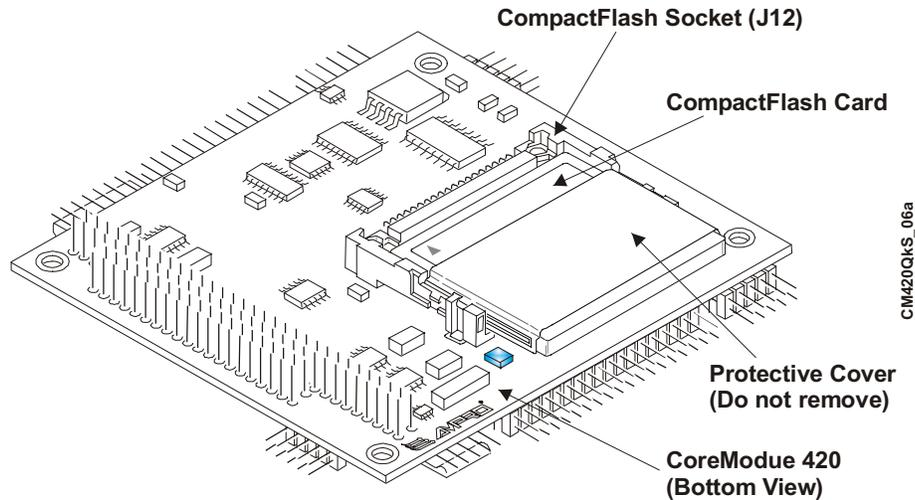

Figure 2-4. CompactFlash Card Installed
4. Turn the CoreModule 420 over to access the bottom of the board and lay it on a flat anti-static surface. See Figure 2-4.
8. Push the CompactFlash card into the socket until it is firmly into the socket and mates with the pins. See Figure 2-4.